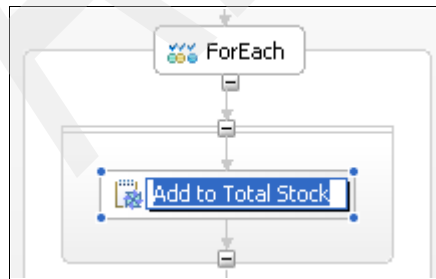

Figure 3-193 Rename snippet Calculate Total Stock, Add to Total Stock
1. Rename the snippet Calculate Total Stock to Add to Total Stock (as shown in Figure 3-193) to be more reflective of the step that you are performing.